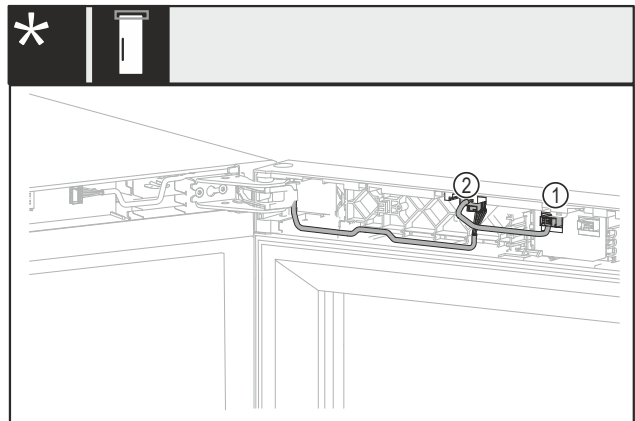

Fig. 19 Without lock or with mechanical lock*
- Pull out the plug Fig. 19 (1)*
- Pull out the plug Fig. 19 (2)*